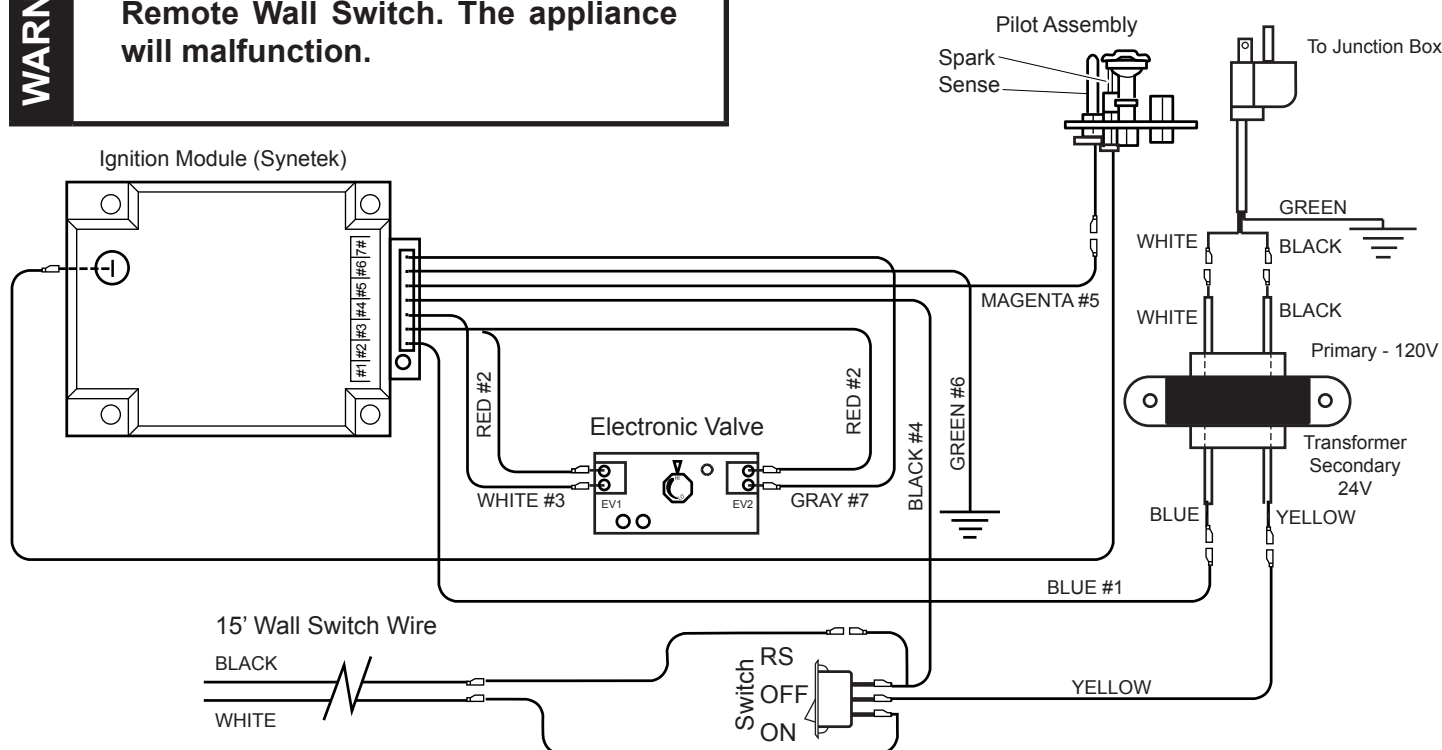

Figure 44 - Remote Wall Switch Wiring Diagram
3. Connect the wire terminal from the remote receiver. This replaces the 15' wall switch connection to the switch. *Figure 44*